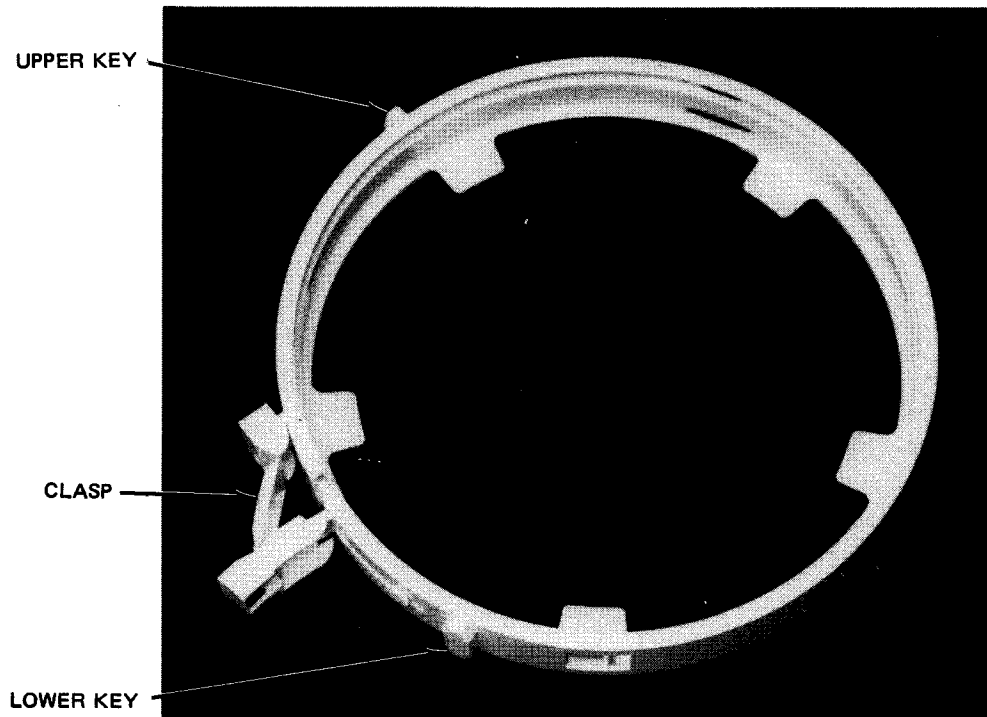
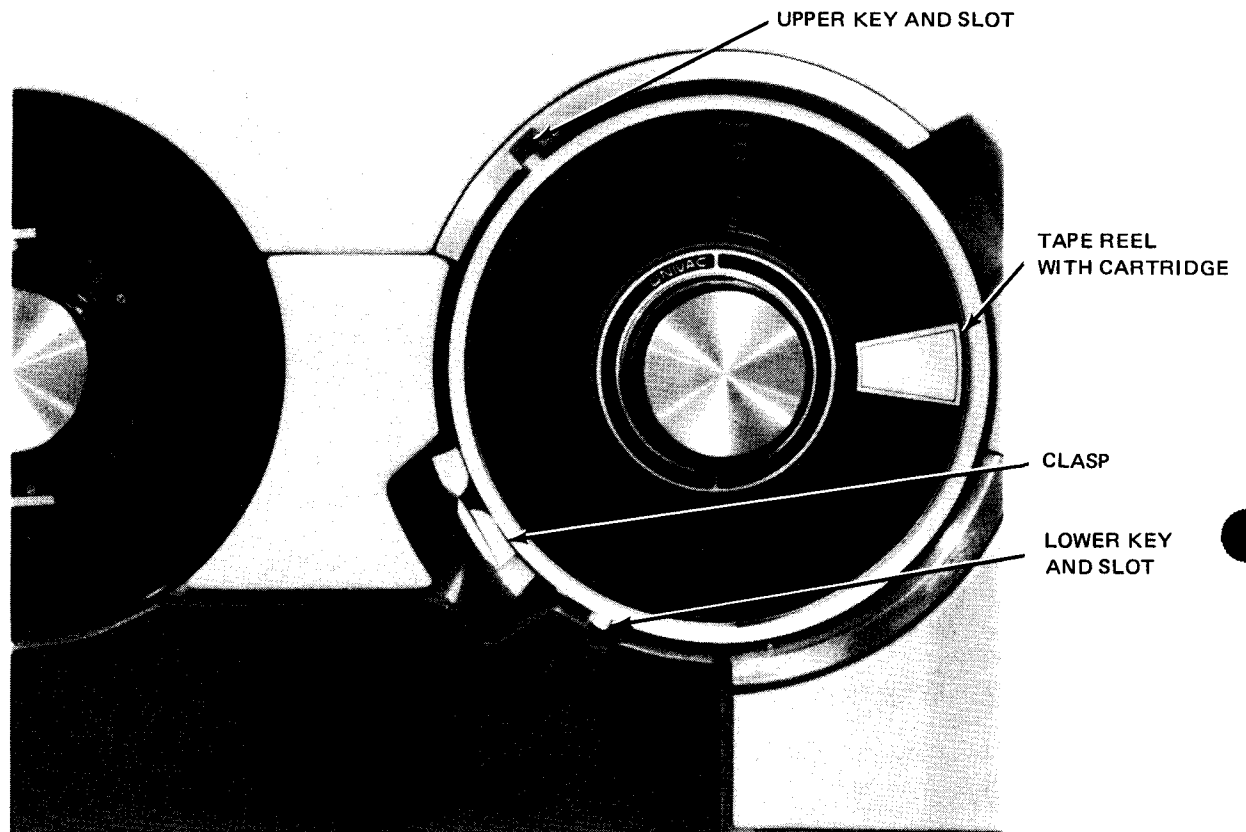

Figure 4-48. Tape Reel Cartridge
Figure 4-49. Tape Reel Mounted on Supply Hub With Cartridge
- a. Open the clasp to secure the reel in the cartridge (Figure 4-48).
4. Mount tape reel cartridge with tape on supply hub so that upper and lower keys on cartridge (Figure 4-48) fit in slots provided for them on tape transport panel (Figure 4-49).
1. Close clasp (Figure 4-49) to secure reel in cartridge if a tape reel cartridge is used.